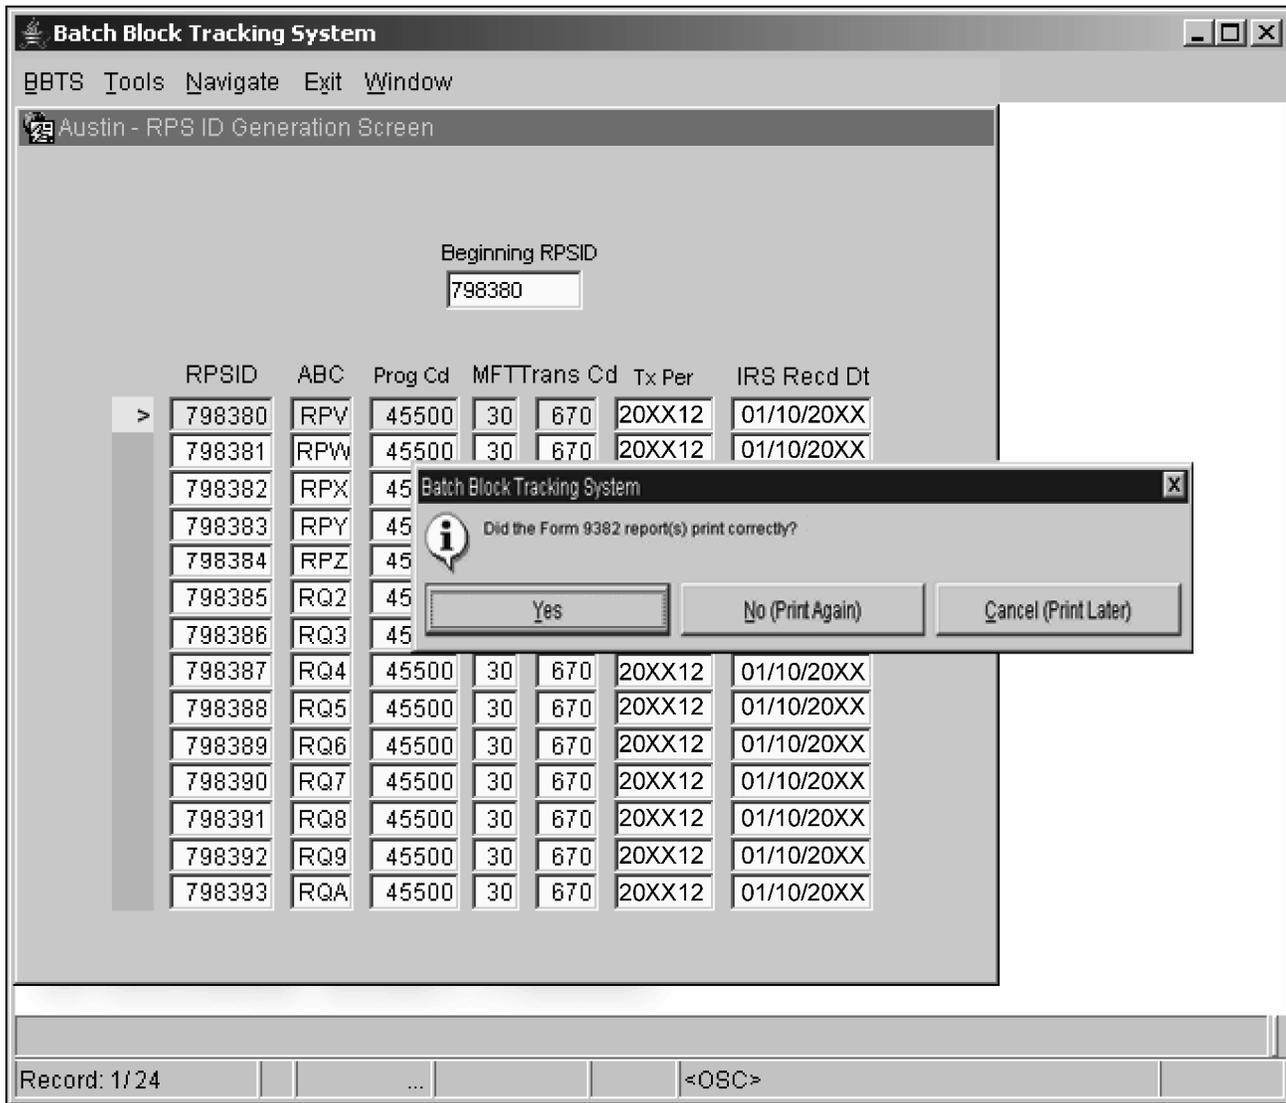

Figure 3.10.5-58 Pop-up Window: “Did the Form 9382 report(s) print correctly?”
- (17) The Form 1332, Block Header(s), generates as an Adobe Acrobat pdf file. When the file has been generated print the transmittal(s). **See Figure 3.10.5-59**